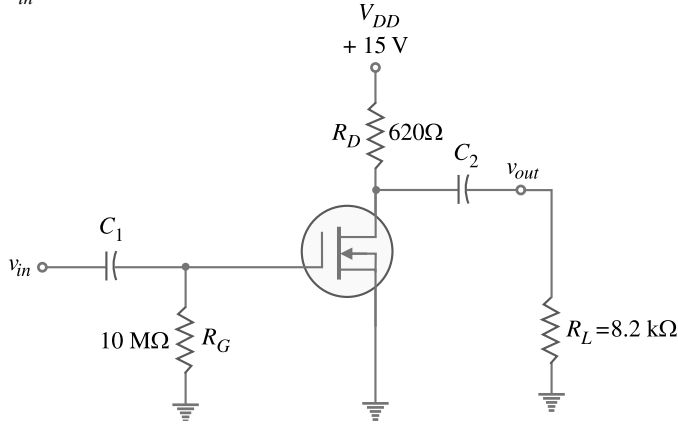

Fig. 17.63
**Example 17.36.** The *D*-MOSFET used in the amplifier of Fig. 17.63 has an  $I_{DSS} = 12$  mA and  $g_m = 3.2$  mS. Determine (i) d.c. drain-to-source voltage  $V_{DS}$  and (ii) a.c. output voltage. Given  $v_{in} = 500$  mV.